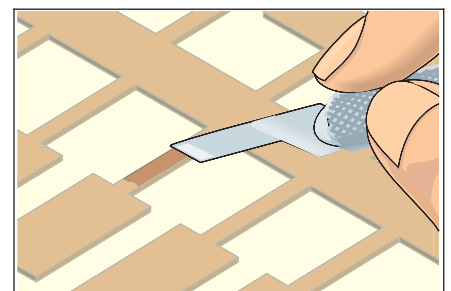

Figure 3 Scrape bonding film from overlap area of new conductor.
9. Before trimming out the new pad carefully scrape off the adhesive bonding film from the overlap connection area on the back of the new conductor. (See Figure 3.)